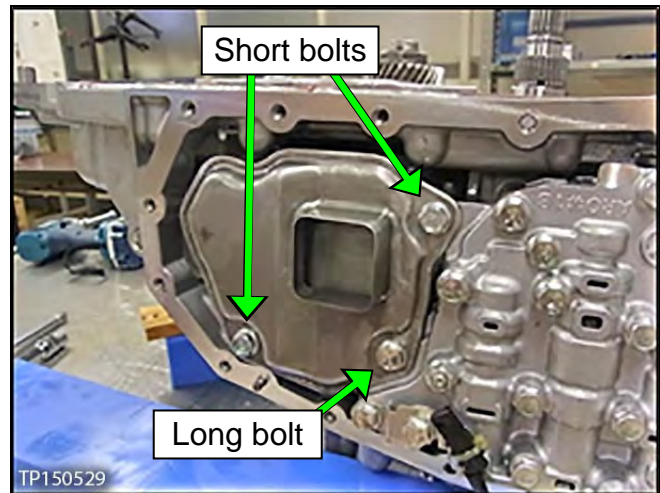

Figure 86
7. Install the new oil strainer with its new O-ring seal (see Figure 86).